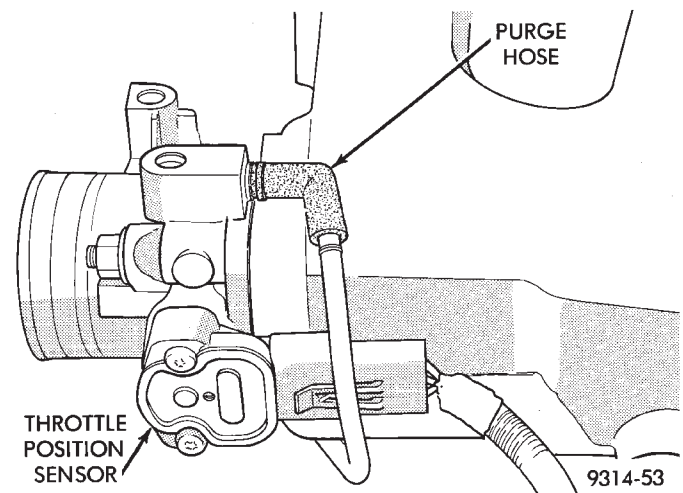

Fig. 22 Throttle Position Sensor—3.5L Engine
(8) Disconnect electrical connector from throttle position sensor (Fig. 22).
(9) Disconnect purge hose from throttle bodies (Fig. 22).